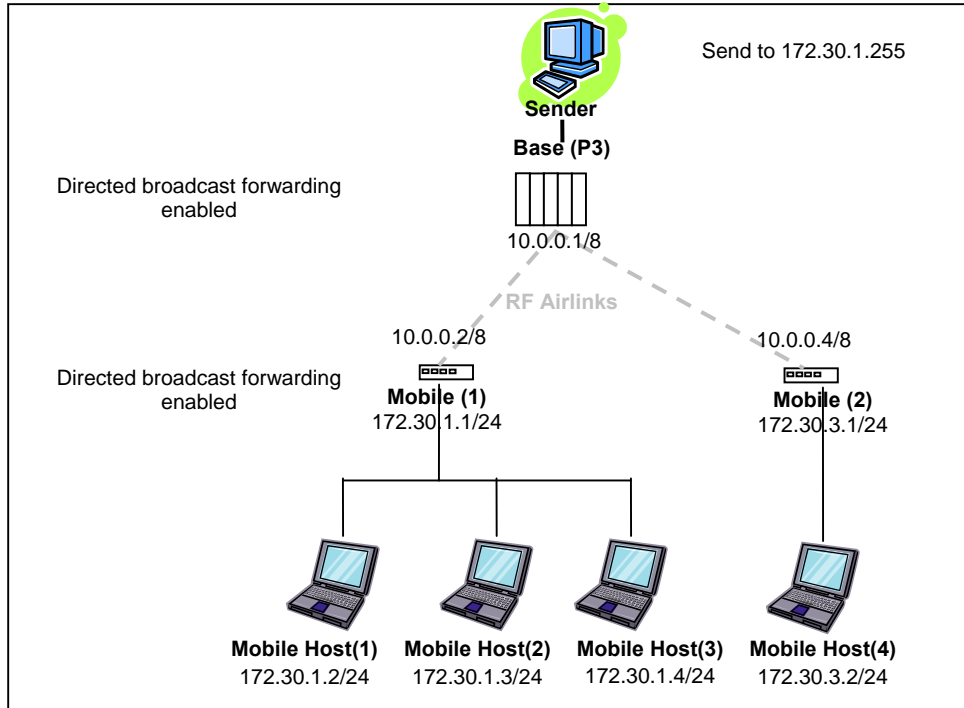

Figure 48 - Example of Directed broadcast forwarding enabled
In this example (Figure 48), directed broadcast forwarding is enabled on the **Base** unit and on **Mobile (1)** unit. If **Sender** wants to reach **Mobile Host (1)**, **Mobile Host (2)** and **Mobile Host (3)** with a single packet, he can send to destination address 172.30.1.255.